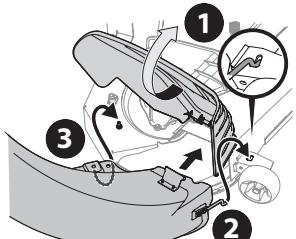

Figure 22
2. Raise the chute deflector (1 in Figure 22) on the deck and hold it while you position the boot over the chute opening.
3. Insert the end of the boot (2) into the hole provided in the deck wheel mount as shown in the inset of Figure 22.
4. Pivot the boot until the hole in the boot aligns with the pin on the deck. Move the boot down onto that pin as shown in (3) of Figure 22.